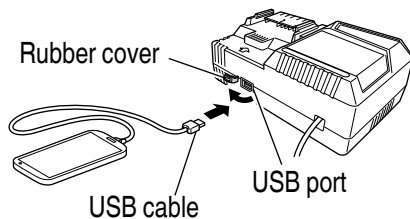

Fig. 26
- (2) Connect the USB cable. **(Fig. 26)**